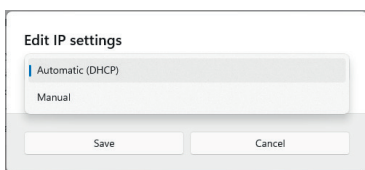

Fig. 5-8: Windows 11, **Edit IP Settings** dialog, settings hidden
- ☞ In this case, change the setting from "Automatic (DHCP)" to "Manual" (Fig. 5-8).